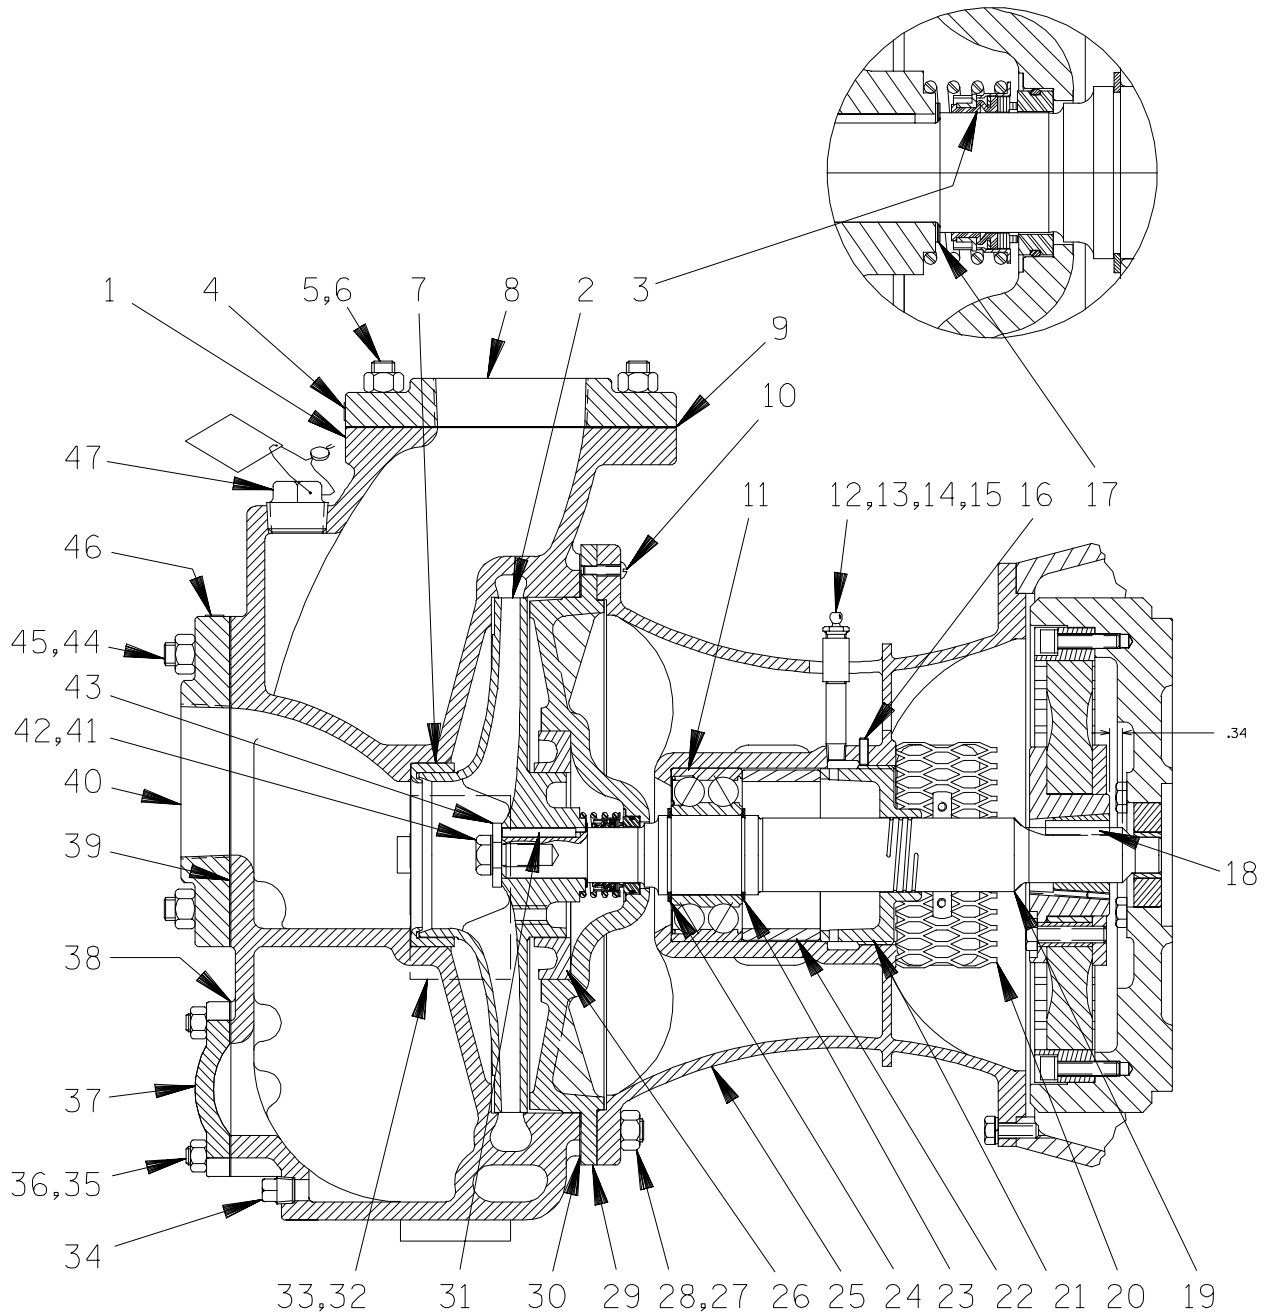

Figure 2. 04B3--(SAE 4/10) Pump End Assembly
(Figure 2)
(Figures 2 and 5)
As the assemblies separate, the flexible portion of the coupling assembly (4) will remain on the shaft. To remove the coupling from the shaft, unscrew the two allen head setscrews from the bushing (3). Screw one of the setscrews into the puller hole on the circumference of the bushing. As the coupling and bushing separate, remove the bushing, and slide the coupling off the shaft. Remove the shaft key (18, Figure 2).